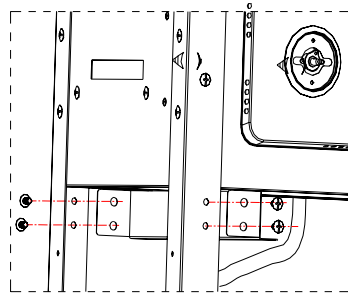

Fig. 10B
Place side drip tray guide inside the left legs as shown in Figure 10B and attach using (4) M6x15 bolts. Be sure the LP gas line is positioned outside the left drip tray guide as shown in Figure 10B.